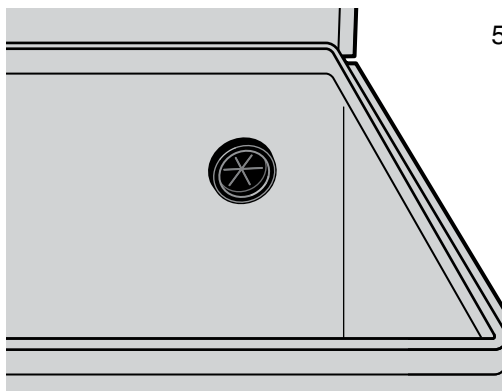

Figure 5
3. Place the rubber RAPID PASS® grommet from the inside of the box in the hole and be sure that it is properly seated. **BE SURE NO SHARP METAL EDGES ARE EXPOSED** (figure 5).